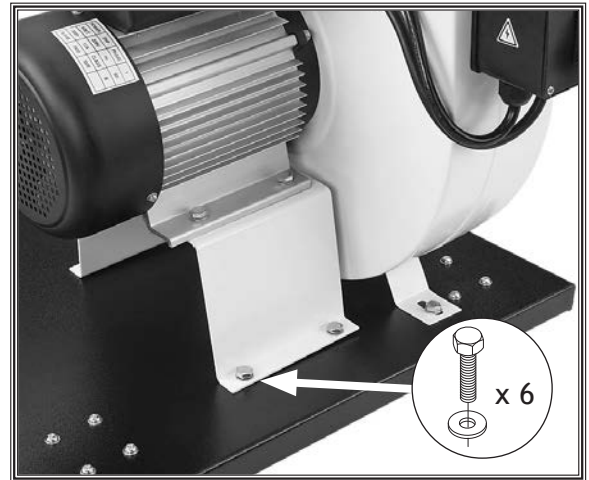

Figure 7. Impeller/motor assembly attached to base plate.
- Attach impeller/motor assembly to base plate with (6) M8-1.25 x 16 hex bolts and (6) 8mm flat washers (see Figure 7).